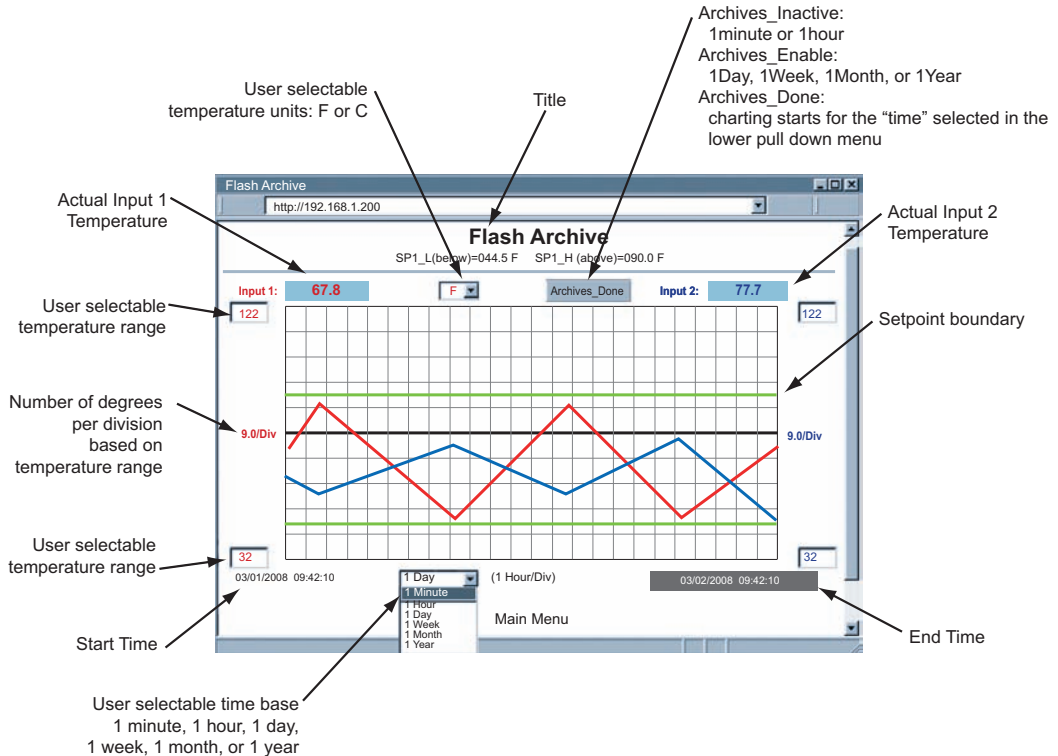

Figure 4.8 Adjustable Chart
- Click on **Chart**, the following page (**Figure 4.8**) should appear. The Java™ Applet graph displays Temperature values which can be charted across the full span or within any narrow range (such as 20 to 30°C). The time-base can display one minute, one hour, one day, one week, one month or one year.
This means that a pre-recorded Flash Card is installed, and by activating the chart the archived data can be viewed (Refer to **Figure 4.8**). The chart has the following selections: 1 Minute, 1 Day, 1 Week, 1 Month, 1 Year
In other words, they are the last specified selection e.g. 1 Day means the last day of the recorded data. Having done the selection, the "*Archives_Enable*" button must be clicked, which will then change to "*Archives_Done*" and the data will be retrieved accordingly. Also, the corresponding Start and End dates will reflect the respective time duration e.g. refer to **Figure 4.8** which is the last 1 Day, the dates are: